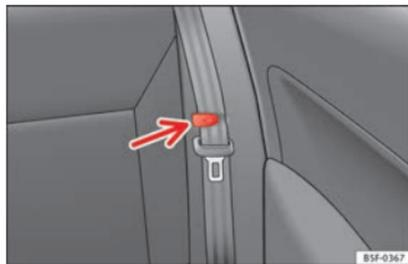

Fig. 109 Clip to support the seat belt.
- Place the side seat belts in the trim clip » **Fig. 109**.